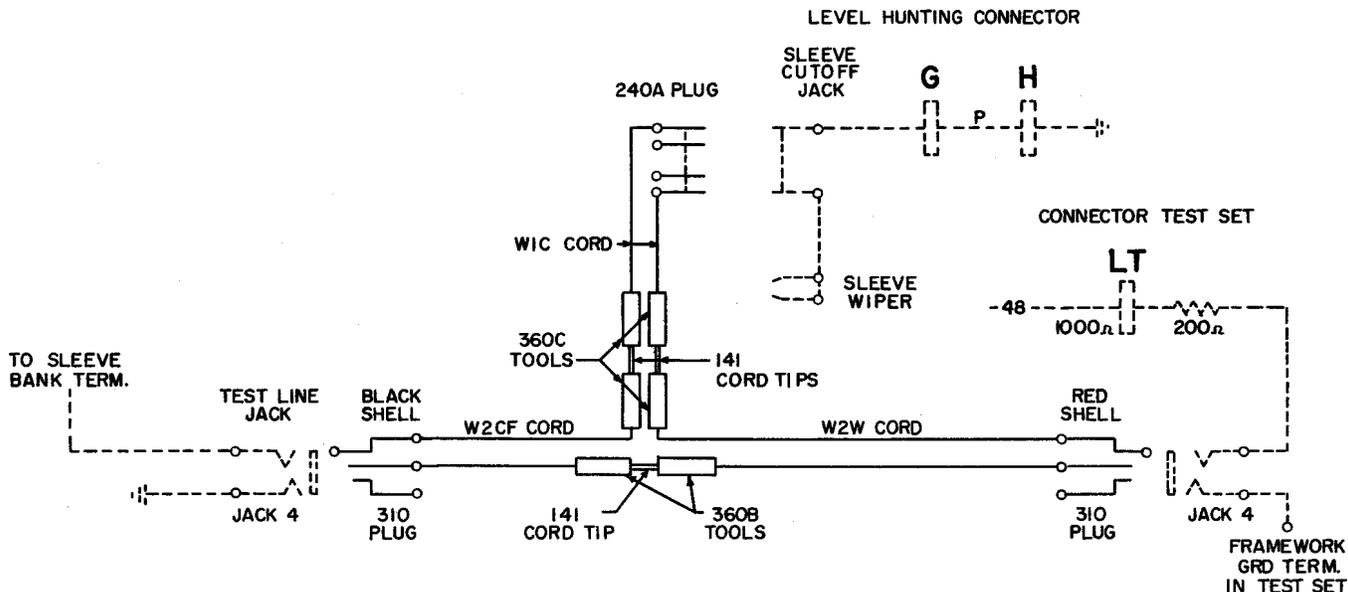

Fig. 1 - Testing Cord
- 2.12** W2W cord, 6 feet long, equipped with a 310 plug, 360B tool, and 360C tool (2W17A cord); W2CF cord equipped with 310 plug (replace red shell with black shell), 360B tool, and 360C tool (2W17D cord); two W1C cords, each 12 feet long; two 360C tools; 240A plug; three 141 cord tips. Connect to form special cord as shown in Fig. 1.
6c	If testing level hunting connectors — Insert black shelled 310 plug of special test cord (Fig. 1) into jack 4 of test line (level hunting) on connector frame, and insert red shelled 310 plug of special test cord (Fig. 1) into jack 4 of test set.
19	Insert 240A plug (stay cord to the right) of special test cord, Fig. 1, into sleeve cutoff jack of connector. Note: If sleeve cutoff jack wiring is reversed, reverse 240A plug.